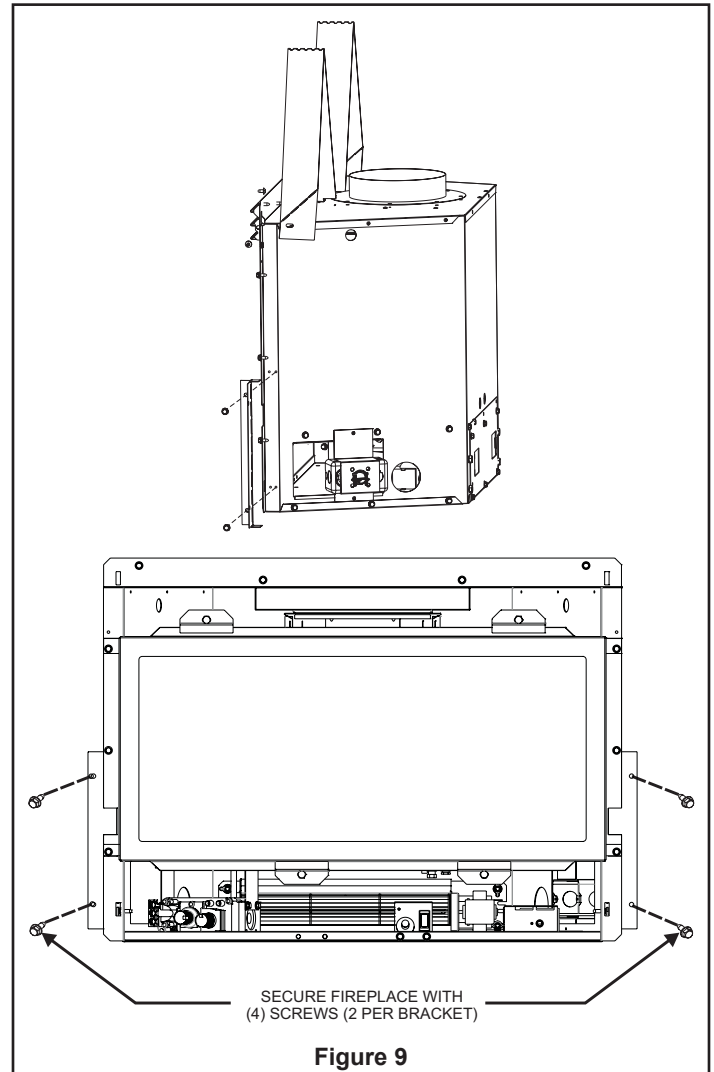

Figure 9
Note: Framing brackets can be attached to sides of fireplace in one of two positions. Screw the framing brackets to the front set of pilot holes if securing brackets over finished wall materials. Or, attach the framing brackets to the rearward set of pilot holes when securing unit to framed opening. See Figure 9.
4. Install the side Framing brackets (1 per side) using the pilot holes provided behind the side flanges on the fireplace outer wrap. Two setback locations are provided for locating the framing brackets. See Figure 9. The pilot holes in the forward position should be used if installing the fireplace after the finished wall surface is present. The rearward hole position should be used to install the fireplace directly to the framed opening, prior to installing the finish wall surface. The framing bracket locations are based on using 1/2" thick surface finishing materials over the framing. See Figure 9.